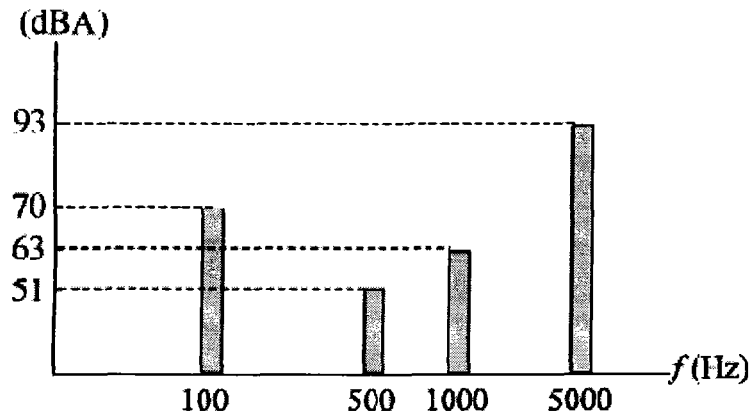

Figure Q5[c]
- [c] A result of the A-weighted sound pressure level measurement is shown in Figure Q5[c]. Determine the C-weighted sound pressure level for all components